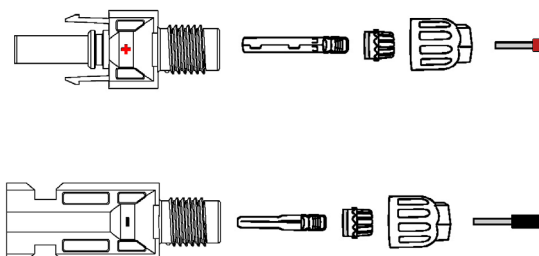

Fig. 18. Disassembling the connector.
- c. Remove the connector from the accessory bag, as shown in Fig. 18: